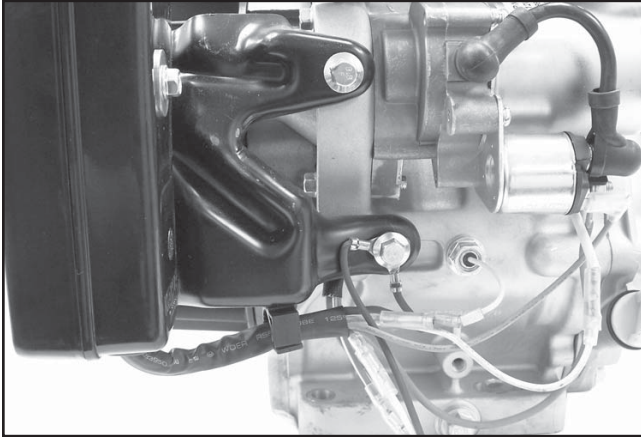

Figure 11-69. Mount and Torque Control Panel Hex Flange Screws.
3. Mount the control panel to the crankcase and secure with two hex flange screws. Ensure the ground wires are placed between the screw and the bracket. Torque the screws to $24 \text{ N}\cdot\text{m}$ (212 in. lb.). See Figure 11-69.